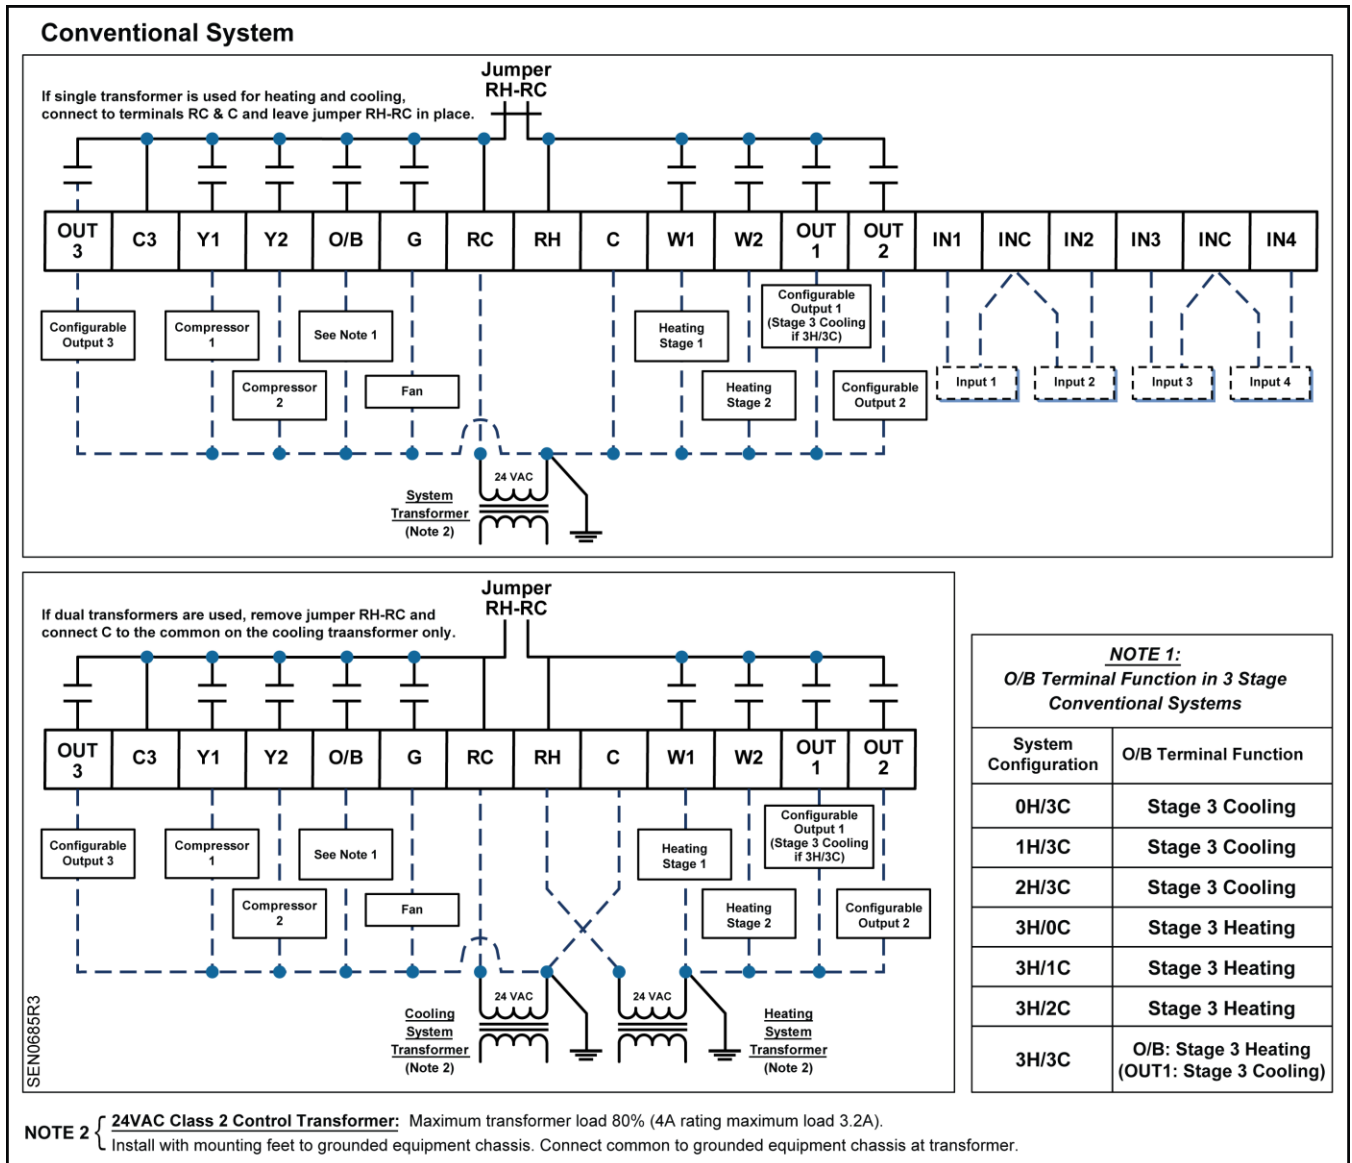
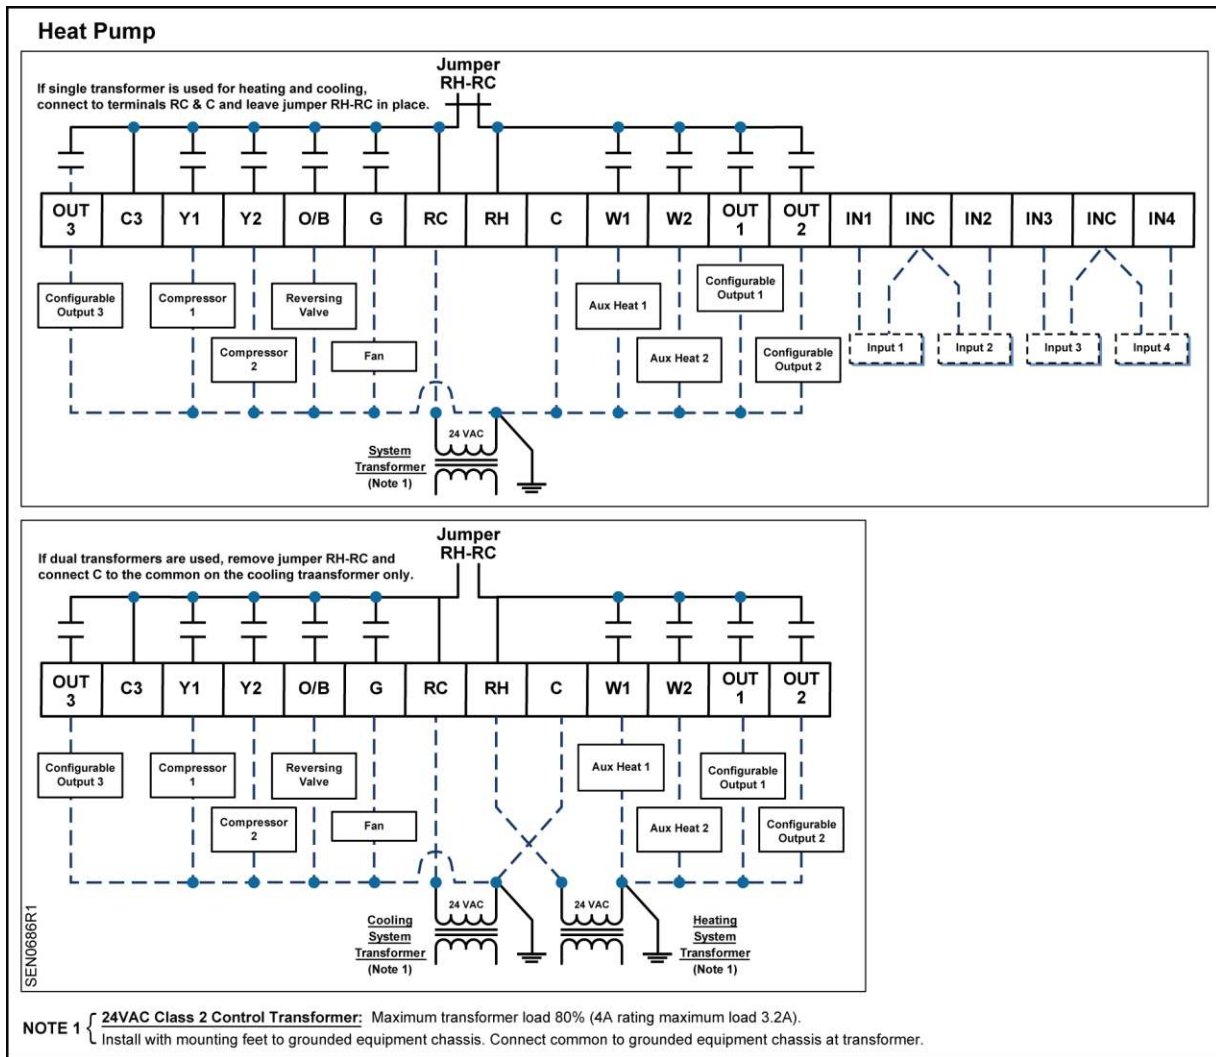

Figure 5. Wiring Schematic, Conventional System.
Figure 6. Wiring Schematic, Heat Pump.
- a. Verify HVAC equipment schematics for required circuit connections to thermostat *Wiring Diagrams*, Figure 5 and Figure 6.